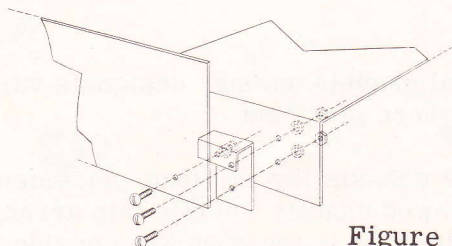

Figure 6
- () Install the two dial plate mounting brackets on the dial plate, using 6-32 hardware. Refer to Figure 6.